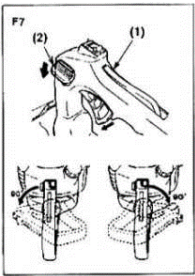

Fig. 6
- Press the rotation knob (Fig. 6-2) down and simultaneously rotate the rear handle (Fig. 1-6) to the right or left (Fig. 6) until it clicks into position;